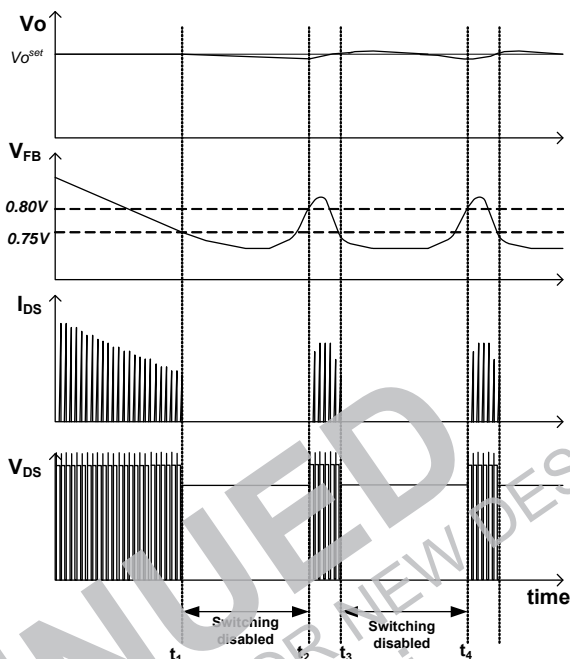

Figure 21. Burst-Mode Operation
5. Burst Operation: To minimize power dissipation in standby mode, the FPS enters burst-mode operation. During the burst mode operation, $I_{FB(Burst)}$ decreases half of $I_{FB(Normal)}$. As the load decreases, the feedback voltage decreases. As shown in Figure 21, the device automatically enters burst mode when the feedback voltage drops below V_{BURL} (750mV). At this point, switching stops and the output voltages start to drop at a rate dependent on standby current load. This causes the feedback voltage to rise. Once it passes V_{BURH} (800mV), switching resumes. The feedback voltage then falls and the process repeats. Burst mode alternately enables and disables switching of the power senseFET, reducing switching loss in standby mode.